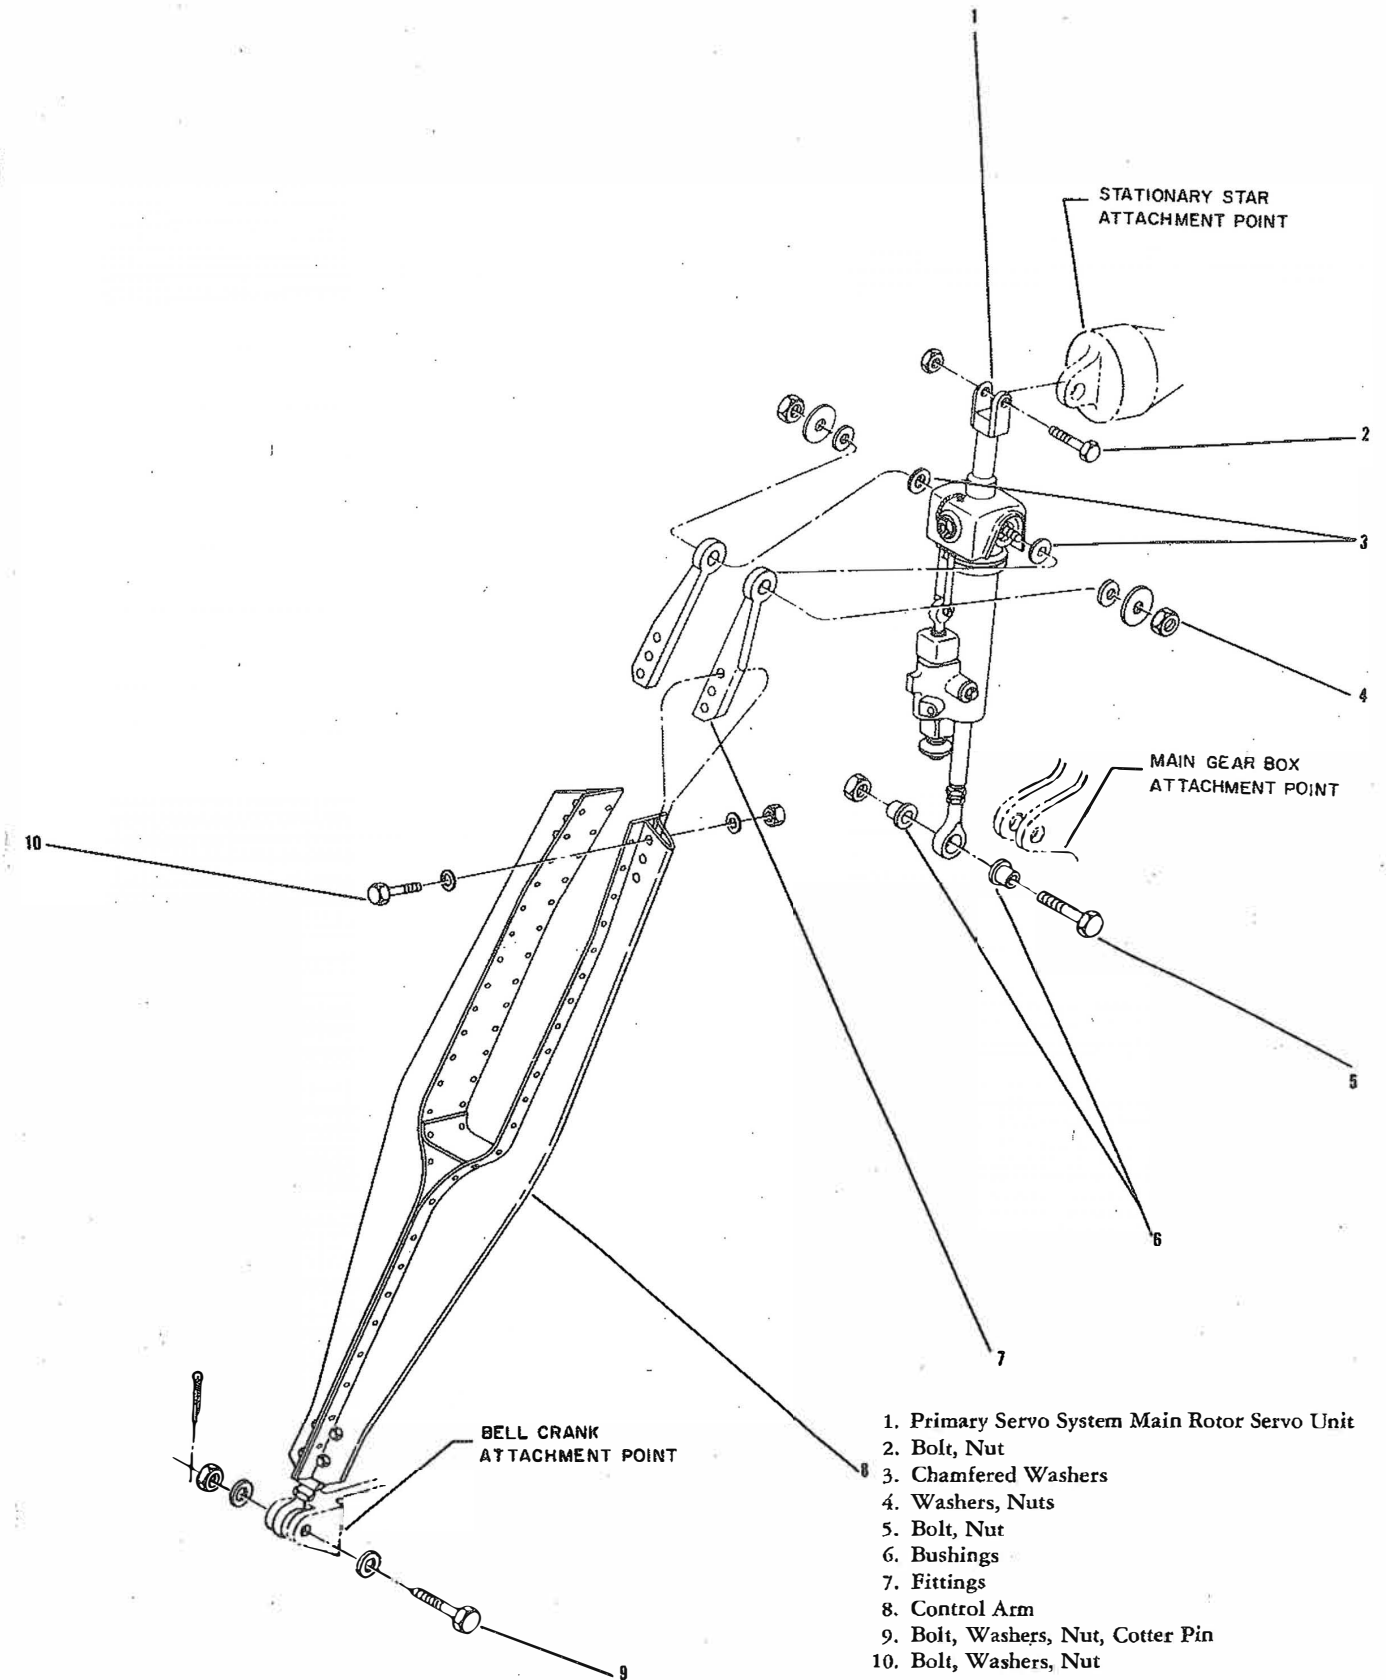

Figure 2-40. Main Rotor Primary Servo and Control Arm Removal and Disassembly
2-394. DESCRIPTION. (See figure 2-40.) The three main rotor primary servo units furnish a hydraulic power boost for relieving main rotor control forces whenever the primary hydraulic system is in operation. Each servo unit is attached to a lug on the main gear box, at its lower end, to a flight control arm at its pilot valve and to an arm of the stationary star at its upper end. Each servo unit is brought into operation whenever its pilot valve is displaced to allow hydraulic oil flow for extending or retracting the servo unit piston. The movement of the flight control rod through a sloppy link at the attachment point of the control arm to the servo unit displaces the pilot valve. The movement of the piston continues until the pilot valve and sloppy link become centered in the neutral position. A pressure and return line are connected to each servo unit. Access to the units may be gained by hinging down the service platforms.
a. Disconnect the two hydraulic hoses from each servo unit (1, figure 2-40). Plug the hose lines and the servo unit fittings.
b. Remove the cotter pin, nut, washers and bolt (9) securing the control arm (8) to the bell crank on the lower housing of the main gear box.
2-396. DISASSEMBLY AND ASSEMBLY. The servo units (1, figure 2-40) must be disassembled and assembled only by qualified personnel at an Overhaul Depot.
During storage of the servo unit and control arm assembly, avoid spreading the control arm. Reinstall the fittings (7, figure 2-40) at each control arm (8) and servo unit (1), push the servo unit piston into the housing, pass lock wire through the piston rod end, and fasten each end of the lock wire to the control arm. Complete the storage preparation according to steps c. through e.
c. Coat the rod-end bearings with grease (index 38, paragraph 1-32). Lubricate the rod end of the servo unit (1, figure 2-40) with grease (index 38, paragraph 1-32) by applying the Shafer Bearing Corporation nozzle, part No. N-2, to each rod-end flush-type fitting.
- a. If not assembled, temporarily install the fittings (7, figure 2-40) at the servo unit (1) and control arm (8).
- c. To avoid spreading the control arm during installation, remove the fittings (7, figure 2-40) from the control arm (8) and the servo unit (1).
d. Secure each servo unit (1) at the stationary star with the bolt (2) and nut.
e. Install the bushing (6) in each main gear box lug. At the piston rod end, secure each servo unit (1) to the main gear box lugs with the bolt (5) and nut.
f. Install the chamfered washers (3) on the servo yoke studs.